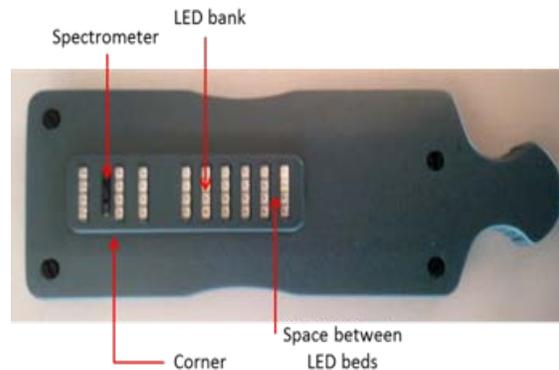

Figure 32. Layout of optical windows including LED banks and spectrometer
- 4 Use a different wipe to wipe the area between the LED banks to remove debris (Figure 32)
- 1 Click 'Check Sensor Connection' button on the System Tools page (Figure 32 ①).
- 1 Click 'Reset Sensor' button on the System Tools page (Figure 32 ②).
- 1 Click 'Battery Level' button on the System Tools page (Figure 32 ③).